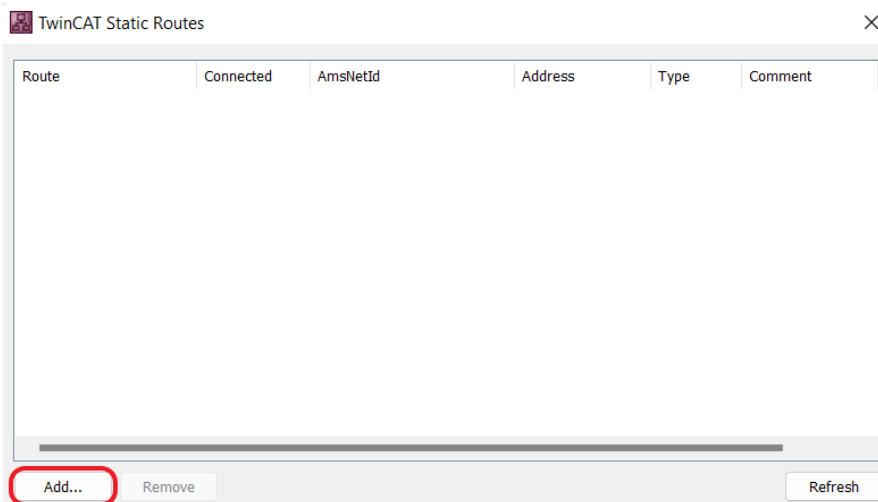

Figure 26: Static Routes – ‘TwinCAT Static Routes’ window
2. This will open the ‘TwinCAT Static Routes’ window. This window may already have one or more controllers listed depending on how many different controllers you have connected to previously on this computer. To setup a communications channel/add a static route, click the ‘Add...’ button at the bottom left of the window highlighted in Figure 26 below.